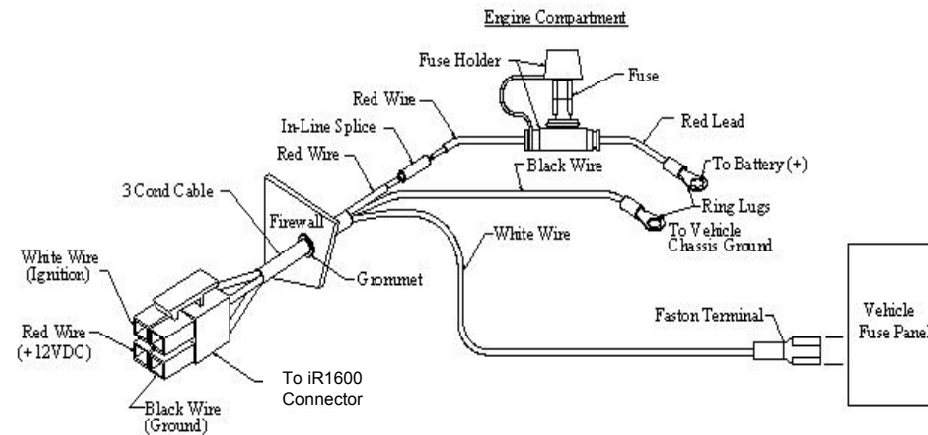

Figure 8 – Modem Power Wiring Diagram
2. Route the free end of the cable to the vehicle battery. If necessary, drill a hole in the vehicle firewall and route the cable through it using the supplied grommet. (Refer to Figure 8 on page 32).
2. Route the free end of the cable to the vehicle battery. If necessary, drill a hole in the vehicle firewall and route the cable through it using the supplied grommet. (Refer to Figure 8 – Modem Power Wiring Diagram on page 32).